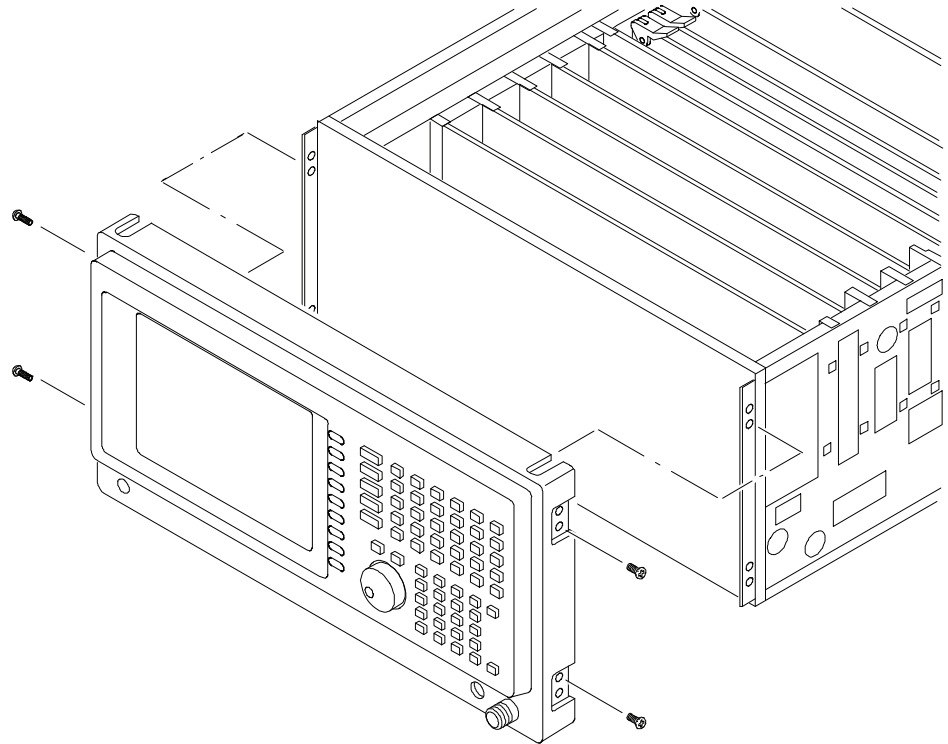

Figure 5-26: Front panel assembly removal
3. *Remove the front panel assembly:* See Figure 5-26.